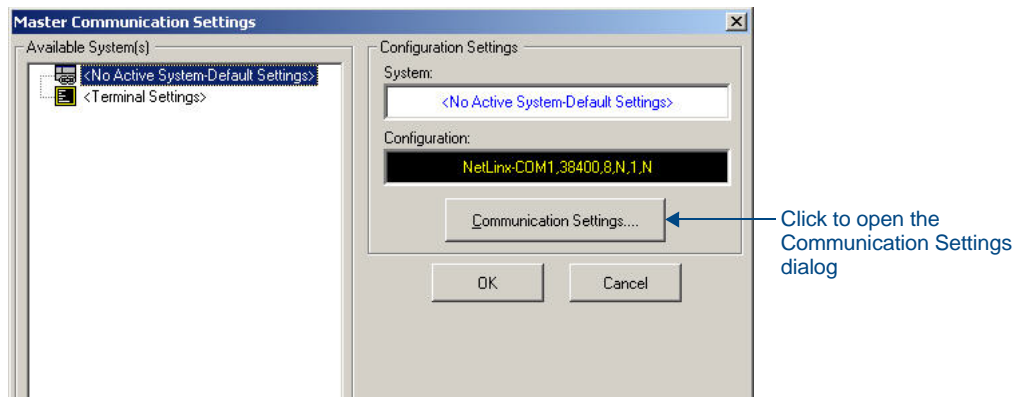

FIG. 1 NetLinx Studio - Master Communication Settings dialog
1. Select **Settings > Master Communication Settings** to open the *Master Communication Settings* dialog (FIG. 1).